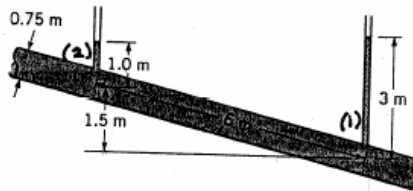

FIGURE P5.91
5.91 An incompressible liquid flows steadily along the pipe shown in Fig. P5.91. Determine the direction of flow and the head loss over the 6-m length of pipe.